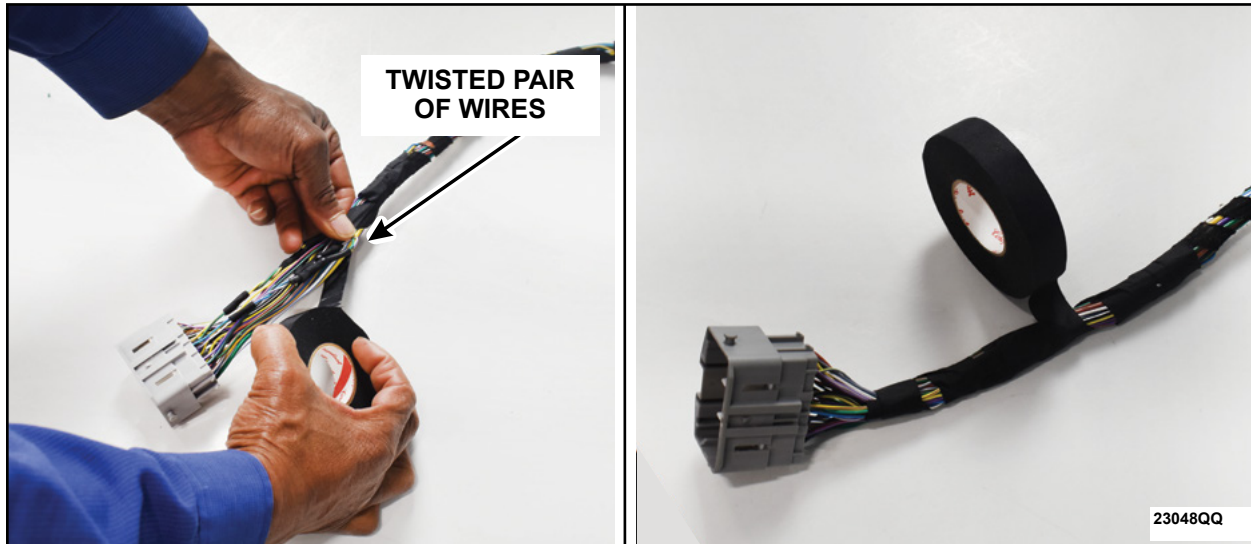

FIGURE 19
20. Lay the twisted pair of wires along the wiring harness and tape the harness back up, including the twisted pair of wires. See Figure 19.